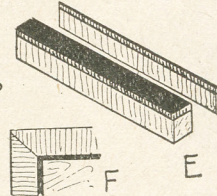

Fig. 4—Border strips
When set, thin slips can be sawn off, as at Fig. 4 (E). Alternatively, if knife-cut veneers are used, strips of the actual veneer can be sawn across and used instead. Thinner strips of the darker wood are laid side by side with